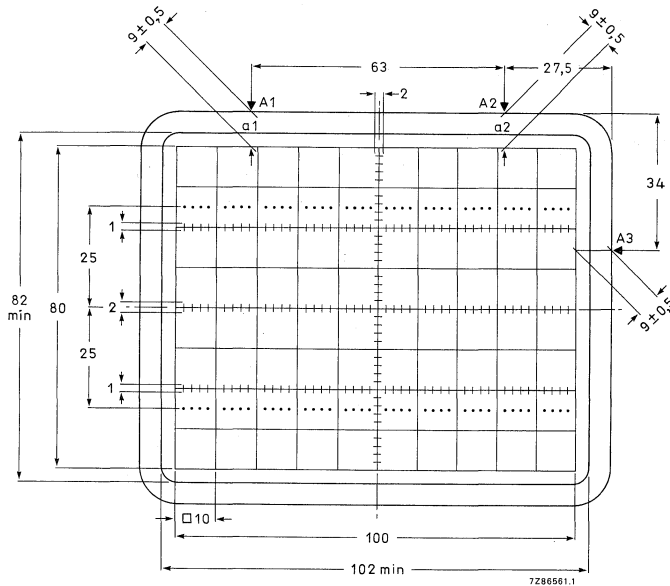

Fig. 4 Front view of tube with internal graticule, type 93.
- (1) Dimensions of faceplate only. The complete assembly of faceplate and cone (frit seal included) will pass through an opening of 122 mm x 102 mm (diagonal 153 mm).
- (2) The coil is fixed to the envelope with resin and adhesive tape.
- (3) The length of the connecting leads of the rotation coil is min. 350 mm.
- (4) Reference points on faceplate for graticule alignment (see Fig. 4).
The internal graticule is aligned with the faceplate by using the faceplate reference points A1, A2 and A3, see Fig. 4. See also note 1, page 7.
1. As the frit seal is visible through the faceplate, and not necessarily aligned with the internal graticule, application of an external passe-partout with open area of max. 102 mm x 82 mm is recommended. The internal graticule is aligned with the faceplate by using the faceplate reference points (see Fig. 4).